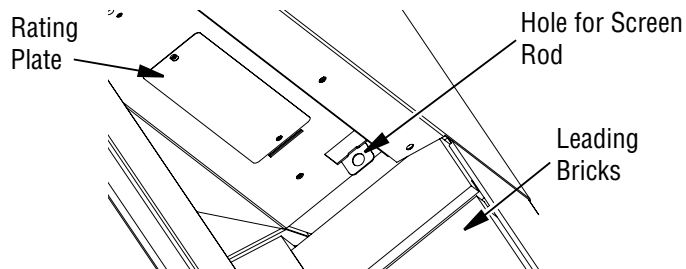

Figure 15 - Installing Fireplace Screen
2. Insert the round end screen rod into hole on the left and right side of smoke shelf (**Figure 15**).